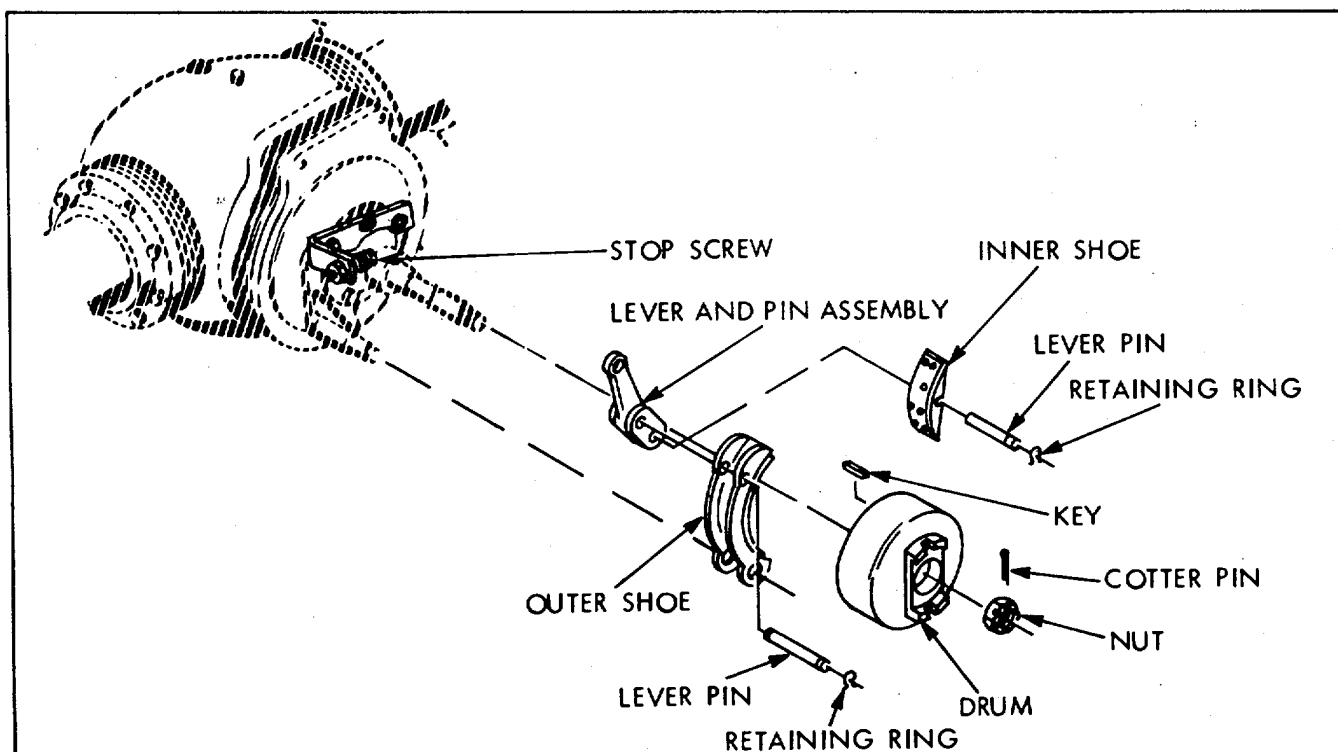

Figure 6-8. Parking Brake, Partly Exploded View
(1) Fully release parking brake lever and turn adjustment knob at top of brake handle counterclockwise to slack off linkage adjustment.
(2) Loosen nut on brake shoe stop screw (Figure 6-8) and adjust screw until lining of both shoes contacts brake drum.
(3) Back off brake shoe stop screw two turns and tighten nut to hold adjustment.
(4) Apply parking brakes and tighten adjustment knob snugly, to the extent a firm push is required to release the parking brake.